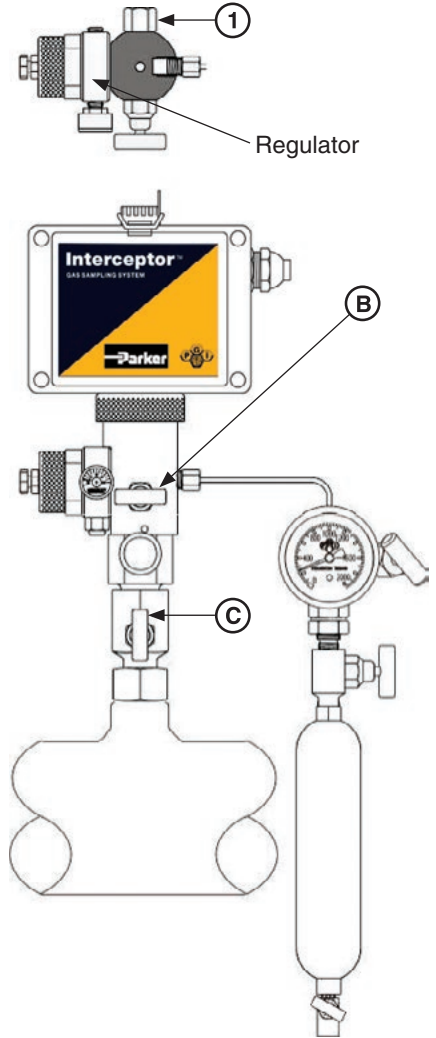

Figure 28: Replacement of Balance Valve Assembly
1.4 Replacement of the Balance Valve Assembly (refer to Figure 28)
1. Use a cotton swab to clean the pump body pocket at ④.
2. With the poppet and O-ring assembly ② installed over the piston ③ and the piston spring ④, and with O-ring ⑤ in place, carefully install the complete balance valve assembly into the pump body and tighten against the body with the 3/4" hex wrench.
3. Close the purge valve (⑥ in Figure 28), then open the Probe Valve (⑦ in Figure 28).